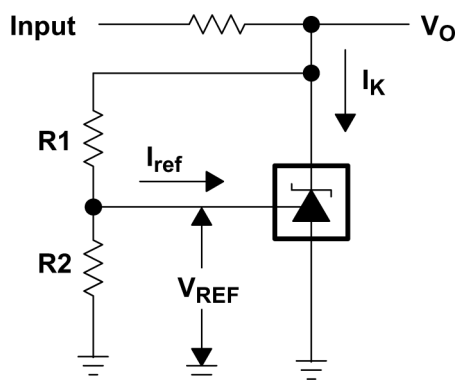

图 6-2. Test Circuit for $v_{KA} > V_{REF}$, $V_O = V_{KA} = V_{REF} \times (1 + R1/R2) + I_{ref} \times R1$
(3) The dynamic impedance is defined as $|z_{KA}| = \frac{\Delta V_{KA}}{\Delta I_K}$. When the device is operating with two external resistors (see 图 6-2), the total
- (3) Full temperature ranges are -40°C to 125°C for TLV431Q, -40°C to 85°C for TLV431I, and 0°C to 70°C for TLV431C.
- (4) dynamic impedance is defined as $|Z_{ka}| = \frac{\Delta V_{KA}}{\Delta I_K}$. When the device is operating with two external resistors (see 图 6-2), the total